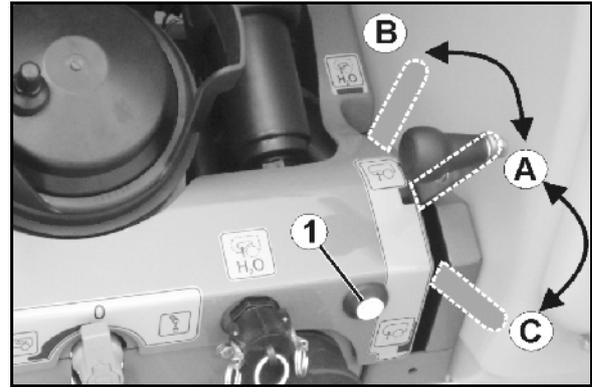

Fig. 104
- The button on the control terminal (Fig. 104/1).